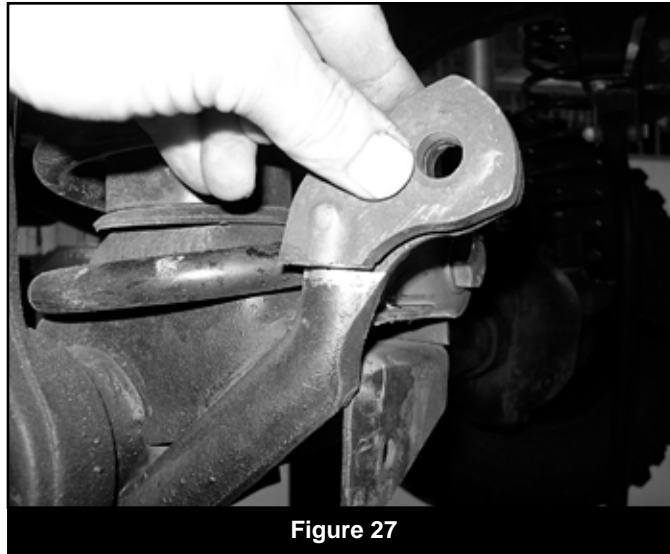

Figure 27
67. With the driver's side link mount removed, use the cut portion as a template by aligning the hole and the profile of the cut piece with the passenger's side mount. Mark the cut line on the passenger's mount (Fig 27). Note: A  $1/2$ " bolt can be inserted in the mounting holes of the ends to aid in alignment.